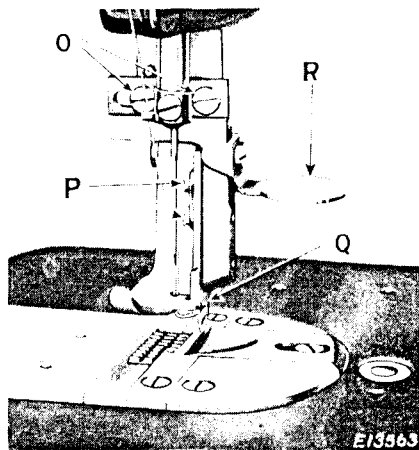

Fig. 20 Adjustments on Trimmer
The knife (Q, Fig. 20) should be set so that its cutting edge presses against the edge of the throat plate cutting bar to insure making a sheer cut.
The sidewise adjustment of the knife is made by loosening the two screws (O, Fig. 20) and moving the knife holder to the right or left, as may be required, after which the two screws (O) should be
To adjust the knife to the correct height, turn the balance wheel over toward you until the knife is at its lowest position, then loosen the two screws (P, Fig. 20) and move the knife up or down on the knife holder, so that the cutting edge of the knife just passes the edge of the throat plate cutting bar, after which securely tighten the two screws (P). Care must be taken to keep the knife sharp.
To disengage the trimmer, pull out the plunger (A, Fig. 2) and raise the handle (R, Fig. 20) as far as it will go. To re-engage the trimmer, press down the handle (R).